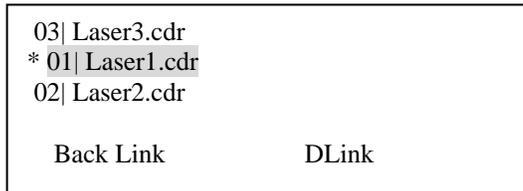

Fig. 5-15 Change job printing sequence
Step 3. Stop the cursor at the starting file you would like set as the first printing job and press F2 key to initiate the LINK function or F4 to DLINK (see fig. 5-15 & 5-16)